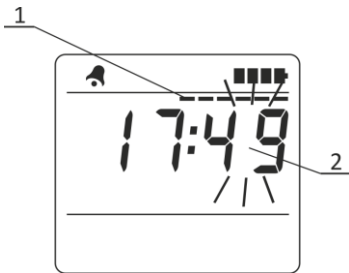

Figure 20 – LCD of the radiometer
To proceed to the submode of time and date correction, press and hold the THRESHOLD button until a stripe (1) “moving” across the instantaneous value indicator appears on the LCD, and the digits of minutes (2) start blinking (Figure 20).